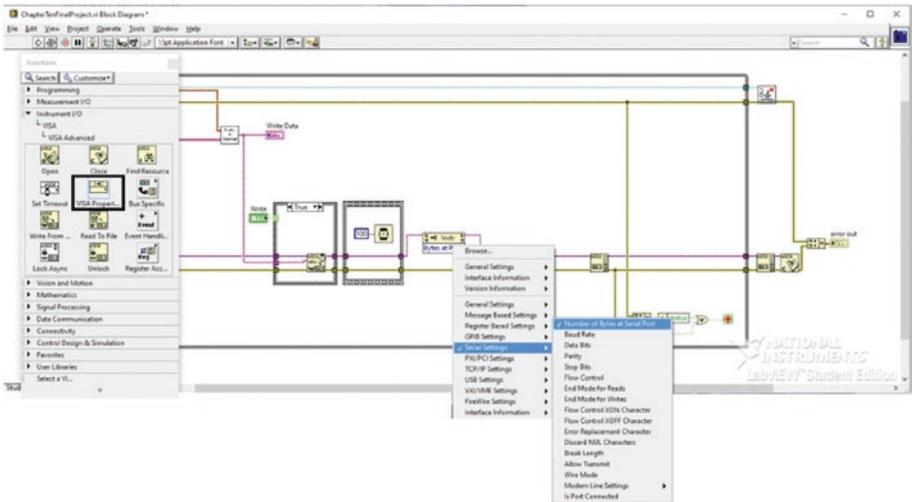

Figure 10-35. Add the “Bytes at Port” property
9. Add a VISA Property Node to the Block Diagram. This will be a “Bytes at Port” function which will set the size of the buffer that we will be looking for on the serial port. See Figure 10-35.